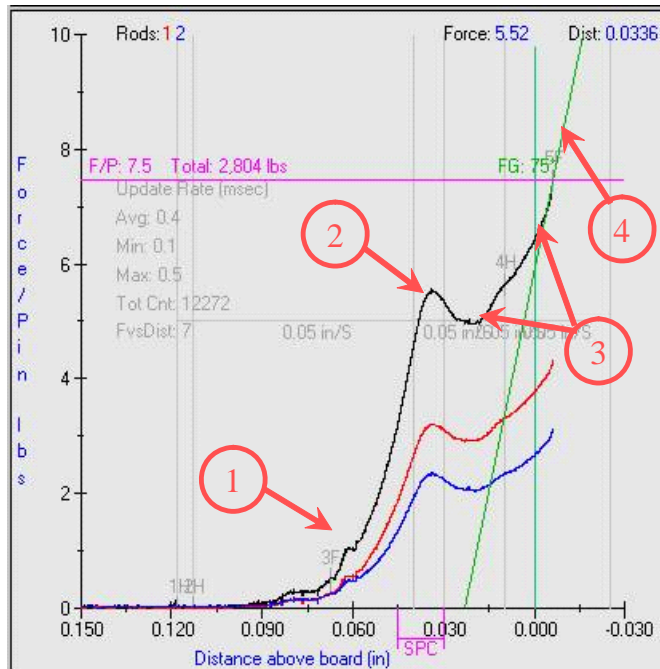

Figure A-10. Typical Force vs. Distance Curve of MEP-12T press for XCede connectors.
The MEP-12T press produces a Force vs. Distance curve during a pressing sequence similar to the one shown in Figure A-10. The main areas of the curve are: the initial compression of the XCede compliant pin and compliance of the PWB hole (1), the point of maximum deflection of the XCede compliant pin (2), the sliding of the compliant pin in the PWB hole (3), and the termination force of the pressing sequence at the 75 Degree Force Gradient line (4). The following descriptions of these areas as for reference and are intended as an aid in understanding the pressing characteristics of the XCede connector utilizing the *ATCS_STD_FG_DWELL.prf* profile.